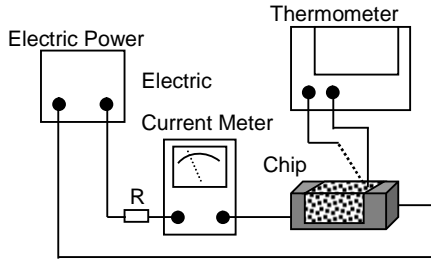

Fig. 5.3.3-1
- d. Definition of Rated Current (I_r): I_r is direct electric current as chip surface temperature raises just 20°C. against chip initial surface temperature(T_a). (see **Fig. 5.3.3-2**):